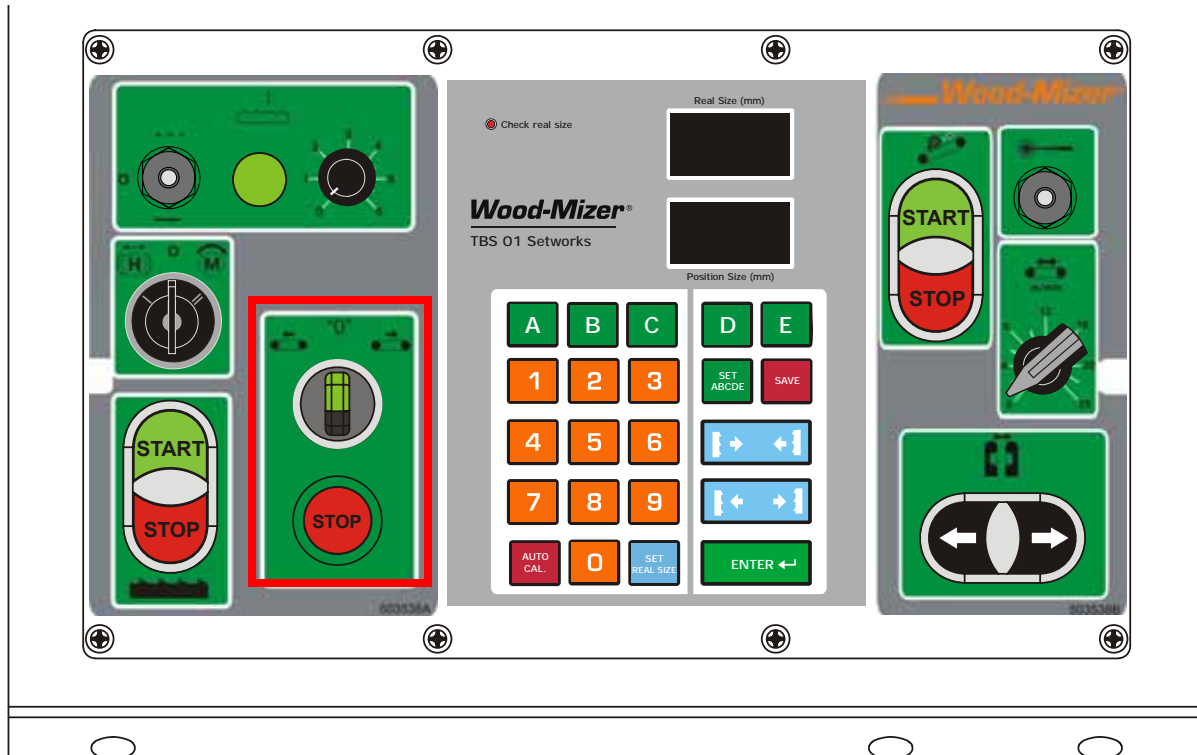

FIG. 2-7
**See Figure 2-7.** After the saw heads have been successfully started, the feed chain can be started.